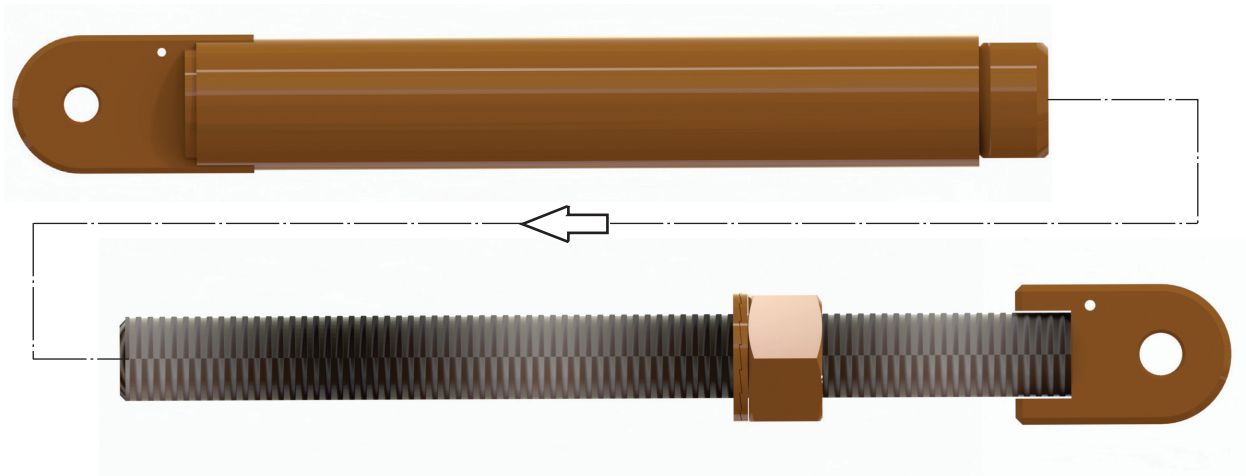

Figure 8: Threading the main body to threaded eye
- Measure the approximate distance between the lugs on motor guard using a tape measure. Screw in the adjustable lug onto the main body until the distance between the lugs are the same as the measurement taken. See Figure 8.